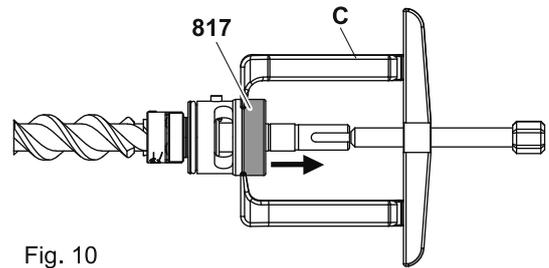

Fig. 10
4. Pull the ball bearing 817 from the main screw using a suitable extractor C, see Fig. 10.